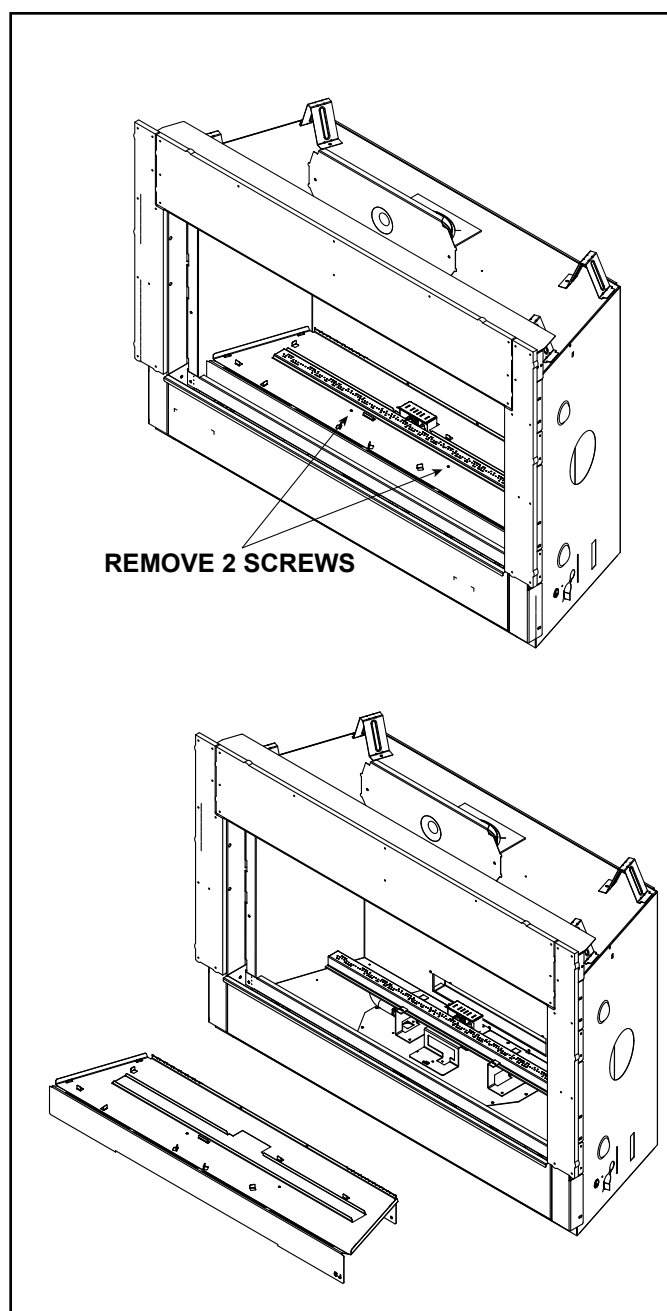

Figure 9.1 Base Pan Removal - JADE42 Shown
1. Locate and remove the two screws that secure the basepan to the appliance. See Figure 9.1. Remove basepan. Retain screws.